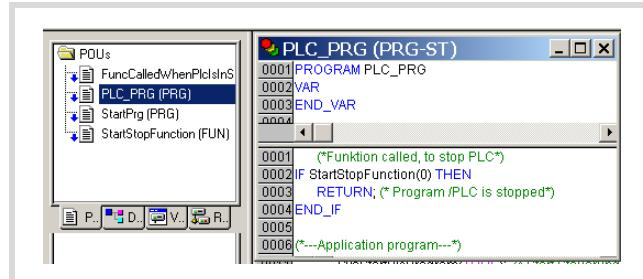

Figure: 125: Scanning START/STOP
- ▶ Enter the program for PLC_PRG as shown in figure 125. It is important that the user program and the POU calls are inserted as shown in figure 125.